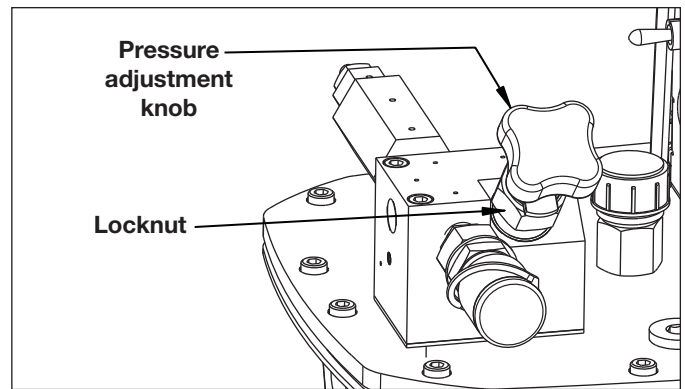

Figure 7, User-Adjustable Relief Valve
3. Loosen the relief valve locknut to allow adjustment. See Figure 7.
9. After verifying that pressure setting is correct, tighten the relief valve locknut (hand tight only - do not overtighten) to lock the setting. See Figure 7.